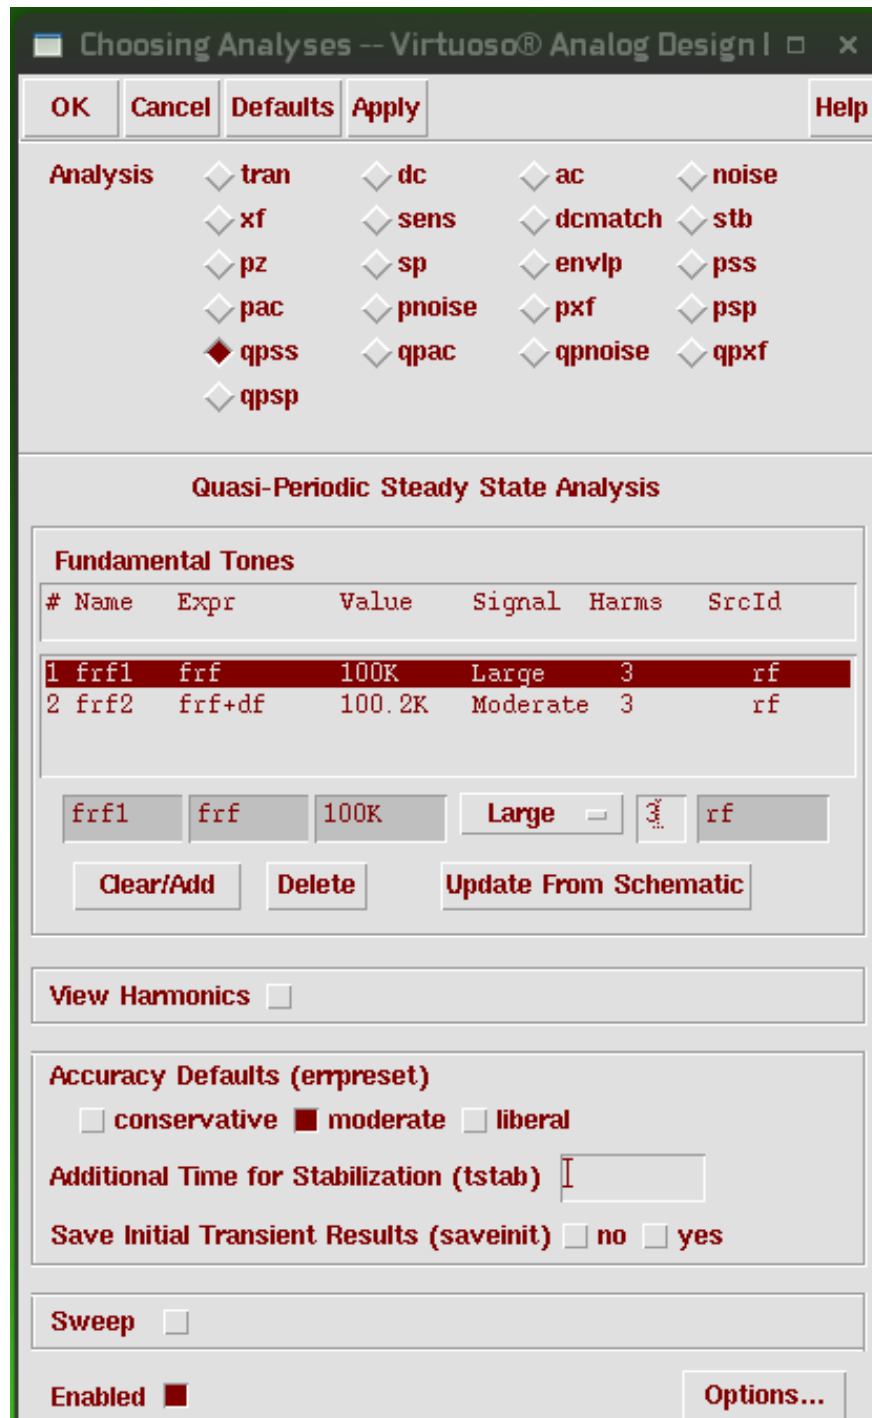

Figure 6.1: QPSS analysis setup
3. Setup QPSS analysis. Refer Fig. 6.1